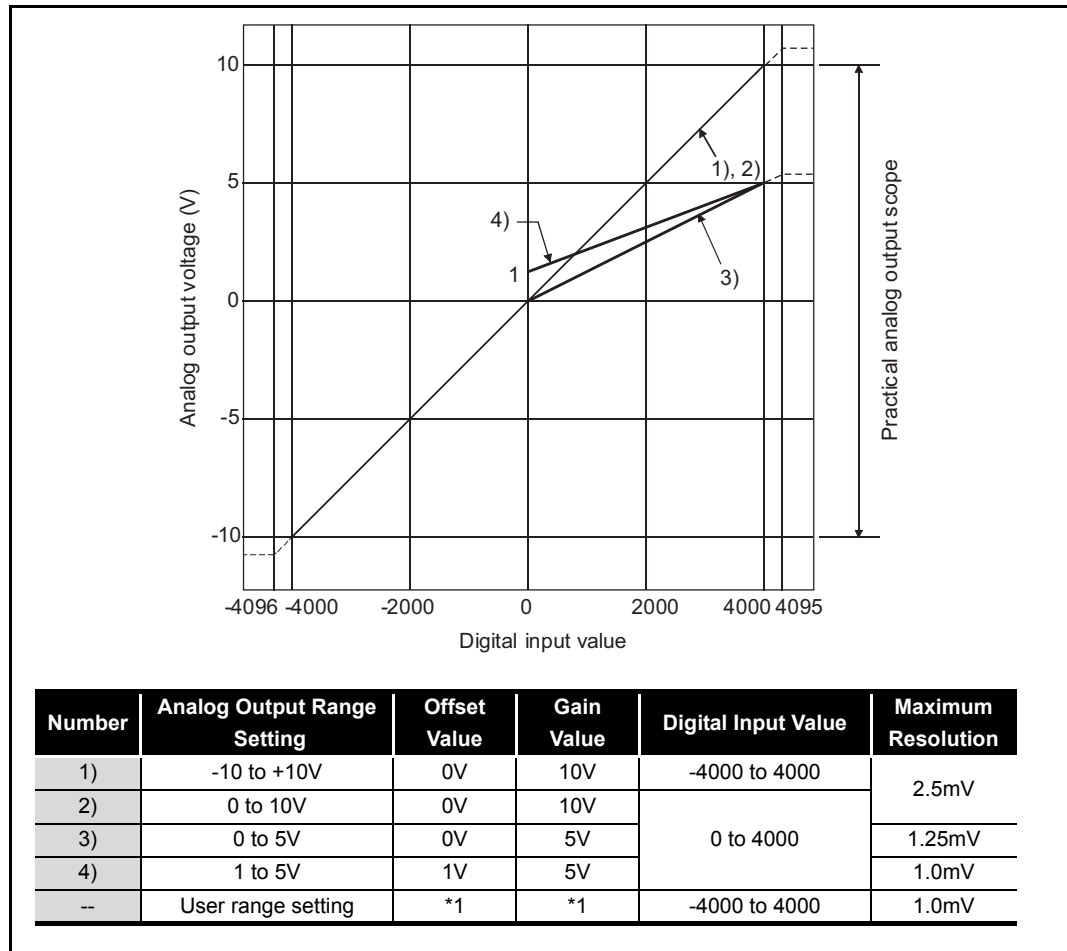

Figure 3.1 Output characteristics of ST1DA2-V
- (1) Within the digital input and analog output scopes of each output range, the maximum resolution and accuracy are within the performance specification range. Outside those scopes, however, they may not fall within the performance specification range. (Avoid using the dotted line part in Figure 3.1.)
- (2) Set the offset/gain values for the user setting range \*1 within a range in which the following conditions are satisfied.